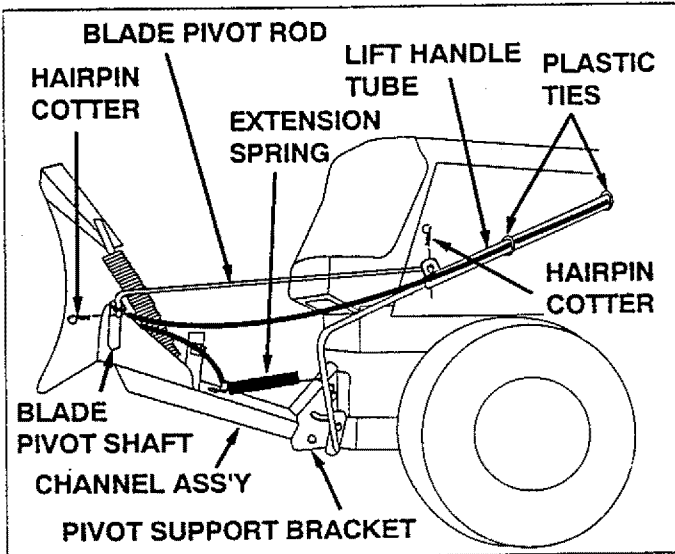

FIGURE 29 (Left Hand Side View)
- Attach the long end of the blade pivot rod down through the blade pivot shaft. Attach the short end of the pivot rod to the lift handle tube. Secure both ends with a hairpin cotter pushed through to loop end. See figure 29.
- Attach the long end of the extension spring to the upper hole in the pivot support bracket and the short end to the center slot in the channel as shown in figure 29.
- Use the two plastic ties to hold the cable securely to the outside of the handle tube and away from the tractor to avoid direct heat from the tractor muffler. See figure 29.
- Refer to figure 29.